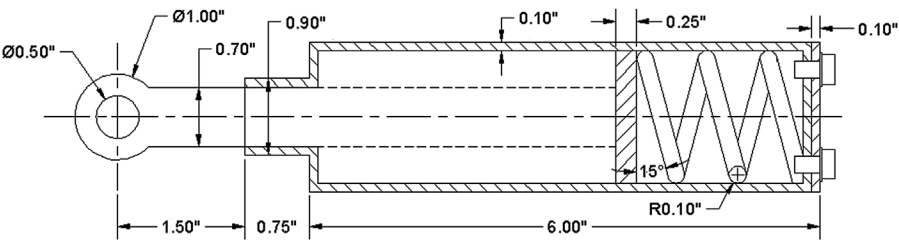
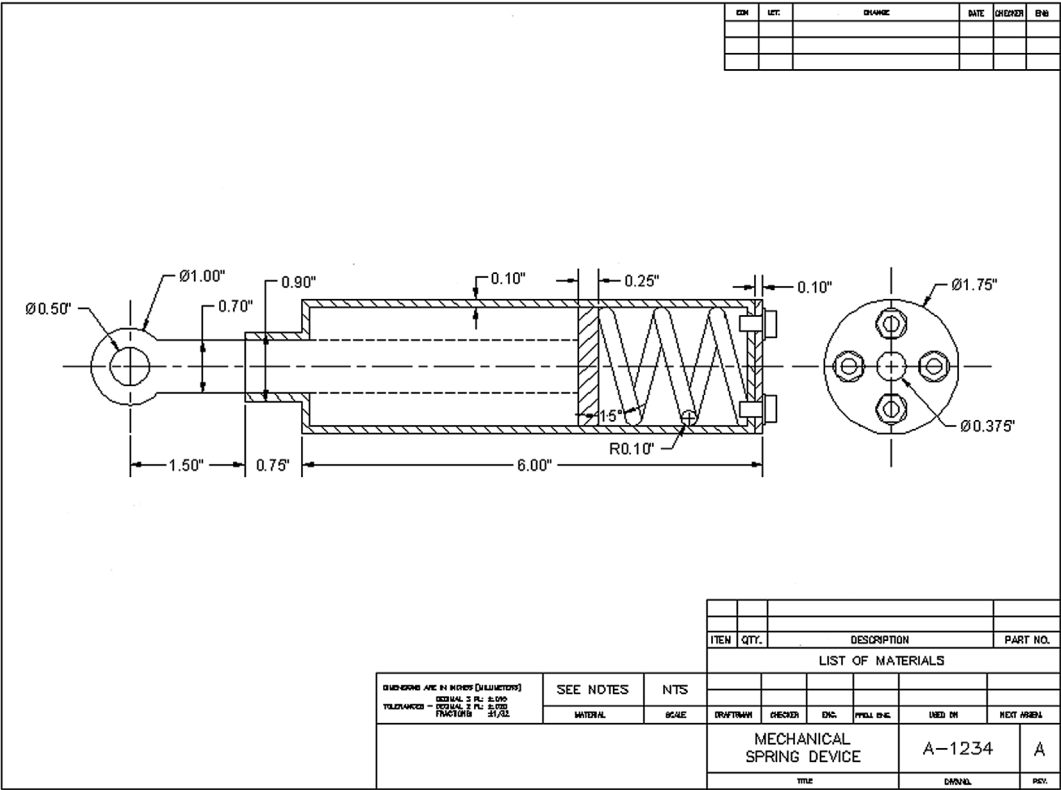

FIGURE 8.32 Completed side view.
FIGURE 8.33 Mechanical project—final.
A full-page view of the completed device is found toward the end of the chapter, see Fig. 8.33. Take a good look at it and decide on a strategy to draw it. Over the course of the next few pages, you will see a step-by-step process to actually do it. Follow the steps carefully, and do not worry about the thick border; i.e., a polyline, to be covered in Level 2. The title block is otherwise just a simple collection of lines and text.
Step 12. Finally, add dimensions (Fig. 8.32) and a title block (Fig. 8.33) by use of rectangles. The title block and its contents are typical of a mechanical engineering drawing.